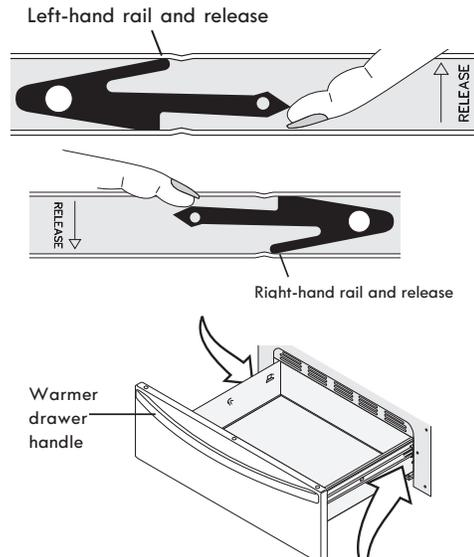

Figure 28: Removing the warmer drawer
2. On left warmer drawer rail, locate black release lever and press up with finger while pulling out slightly on the oven drawer handle. On right warmer drawer rail, locate black release lever and press down while pulling out slightly on the warmer drawer handle (Figure 28).